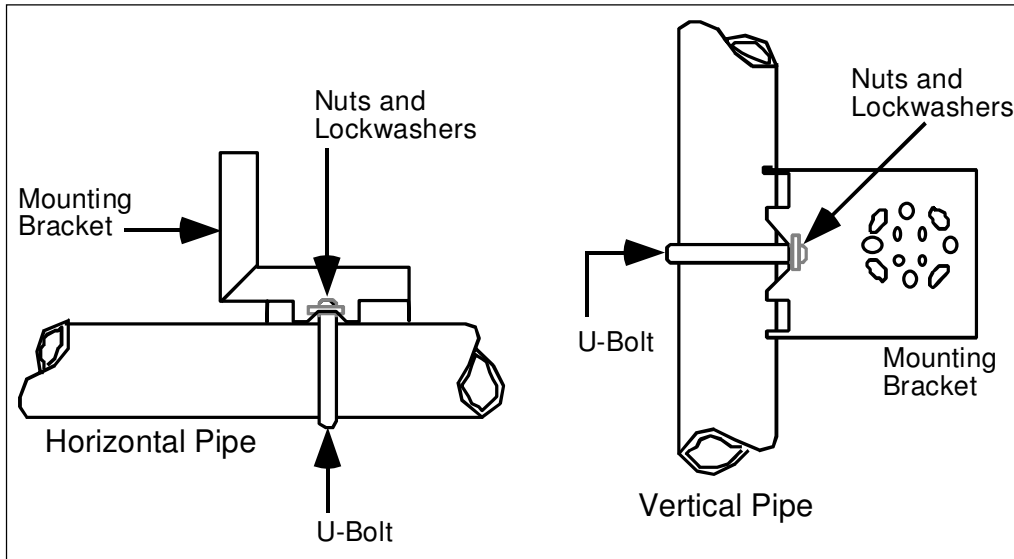

Figure 6 – Angle Mounting Bracket Secured to a Horizontal or Vertical Pipe
1. Refer to Figure 6. Position the bracket on a 2-inch (50.8 mm) horizontal or vertical pipe, and install a “U” bolt around the pipe and through the holes in the bracket. Secure the bracket with the nuts and lock washers provided.